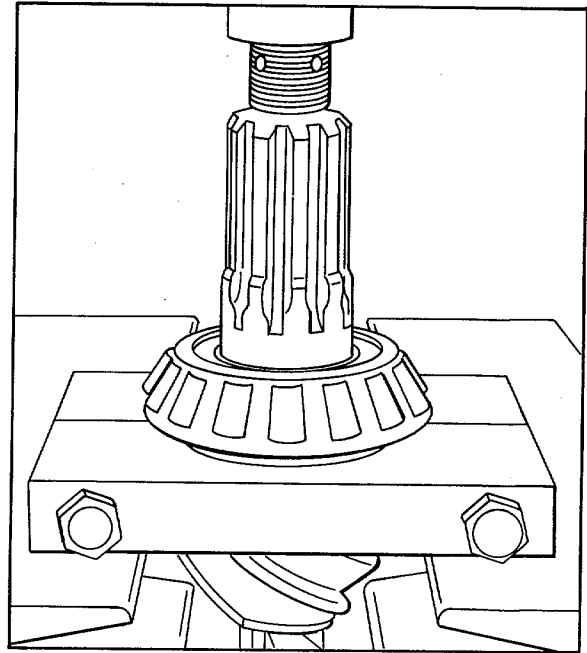

Figure 9.
4. Remove rear thrust bearing and radial bearing with bearing puller if necessary to replace (refer to Fig. 9).
4. Remove bearings from shaft with suitable puller if necessary (refer to Fig. 9).